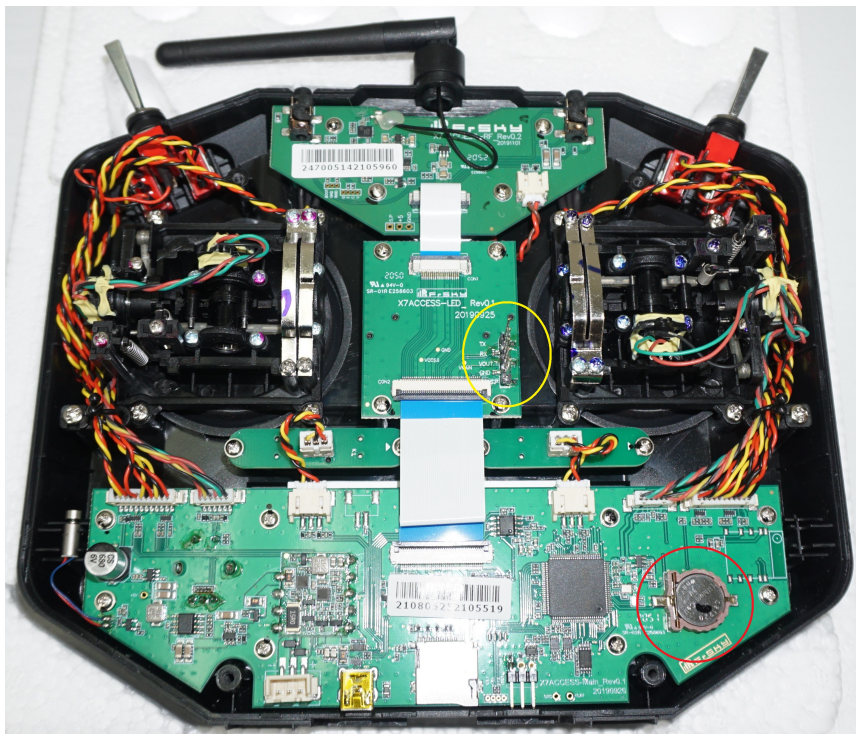

Figure 109: RCU RTC Location
8. Locate the RTC battery(circled red in Figure 109) and remove it.
10. Carefully put the two case halves together. Verify the module bay pins (circled yellow in Figure 109) slide through the slot (Figure 23).